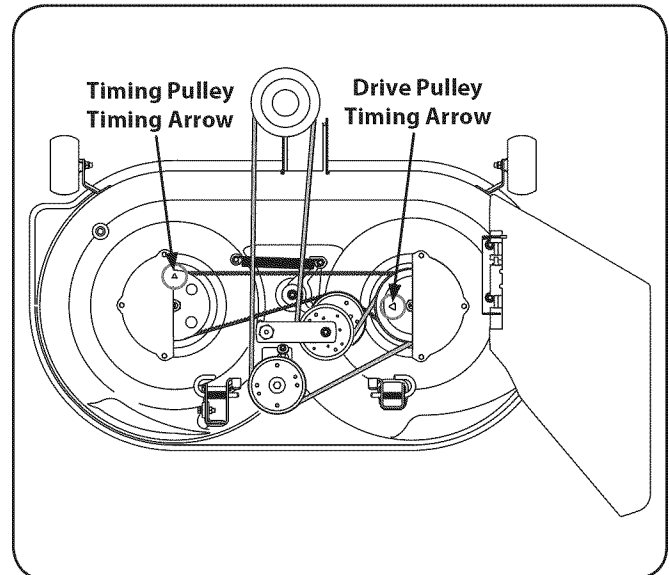
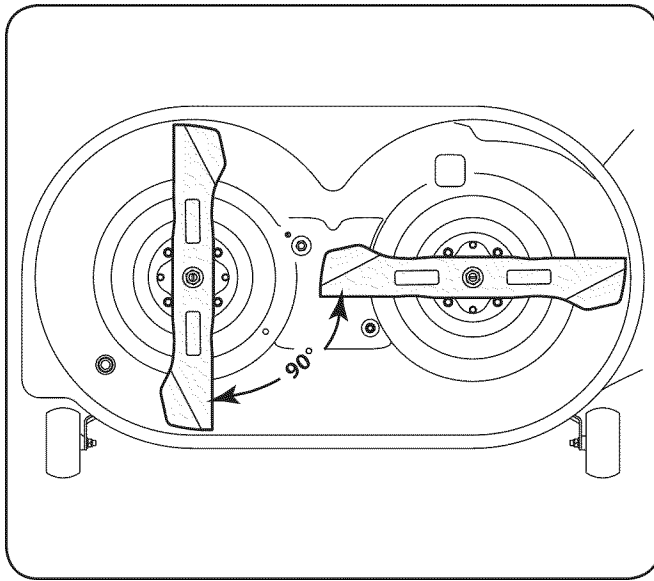

Figure 7-6
Figure 7-7
8. Note the arrows on the top of the timing pulley on the LH spindle and on the drive pulley of the RH spindle assembly. These timing arrows **MUST** be positioned 90° from each other as shown in Fig. 7-6.
9. Rotate the RH spindle assembly to position the drive pulley timing arrow as shown in Fig. 7-6. Then without moving the RH drive pulley, pull the timing belt tight against the RH timing pulley, above the timing belt idler pulley, and over to the LH timing pulley.
10. Turn the LH timing pulley so that its timing arrow is 90° from the RH spindle assembly timing arrow. Refer to Fig. 7-6.
12. After making sure the spring is hooked onto the idler bracket and screw, pivot the timing idler bracket/idler pulley against the spring tension just far enough to allow you to lower the backside of the timing belt onto the idler pulley. See Fig. 7-6.
13. Re-check the timing arrows on the two pulleys. If they have moved from the 90° position when tensioning the timing belt, pivot the idler pulley to relieve tension on the belt and re-position the pulleys. The timing arrows **MUST** be positioned 90° from each other as shown in Fig. 7-6.
15. If the timing belt was installed correctly and the timing arrows were positioned as shown in Fig. 7-6, the cutting blades should be in the position shown in Fig. 7-7.